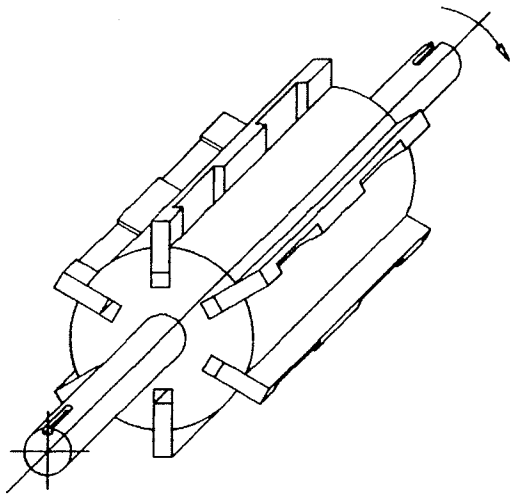

Figure 6
- NOTE:** When Removing pump drive end assembly cradle vanes in rotor. Note orientation of vanes in relation to pump rotation (Refer Fig. 6) then remove vanes and pushrods from rotor.
VANES MUST LEAD THE DIRECTION OF ROTATION AND VANE PLATES MUST FACE THE PUSHRODS. (Refer Fig. 6)